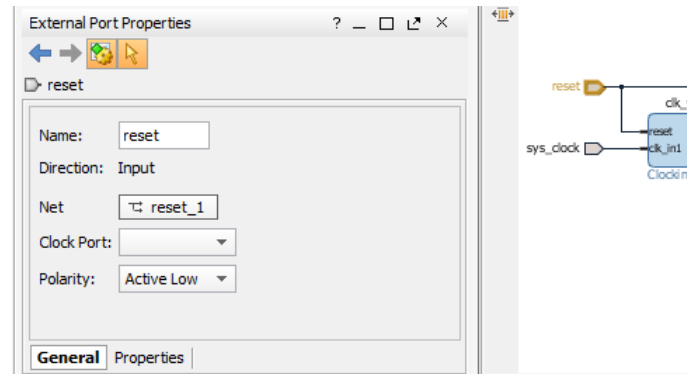

Figure 18: Reset Input Port Properties
1. Select the reset input by clicking on it in the block design Diagram. Information about the selected item will be displayed as in Figure 18. Notice that the **Polarity** is *Active Low*.